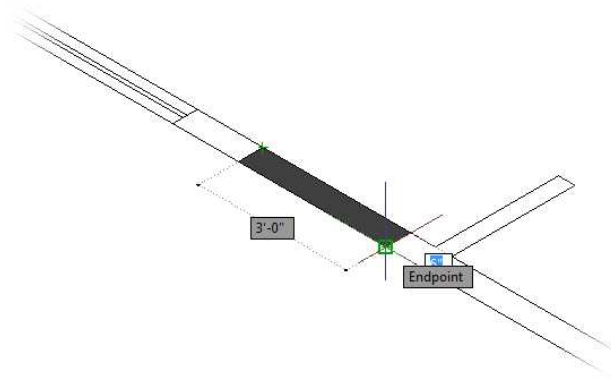

FIGURE 16.13: Defining the footprint of the back door
7. At the prompts, click two opposite corners of the back door opening, as shown in Figure 16.13.